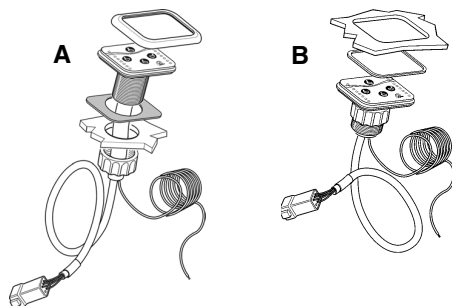

Fig. 20
Install the control panel (B), **see fig. 1, 3 and 20,** easily accessible at the helm station. Hole cutting is diameter 52 mm (2"). **See fig. 3.** Use the gasket, included in the supply (20 A). For flush mounting of the panel, press the center section out and use the rest of the gasket for assembly **see fig. 20 B.** See also the hole template for the control panel.